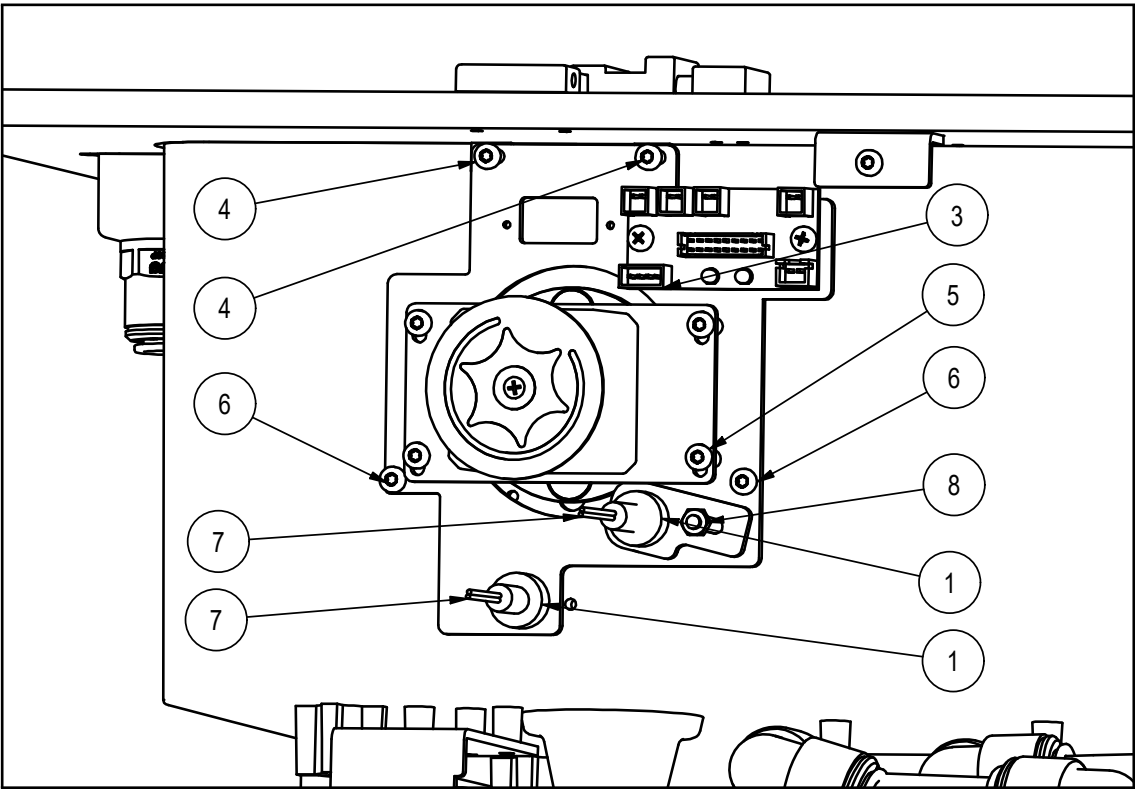

Figure 6.8: The motor assembly and its components.
You will see two magnetic sensors (blue plastic and gray cable, number 7 in Figure 6.8) mounted on the bottom of the motor assembly. The sensor on the left is the presence sensor and it's fixed in place, the sensor on the right is the rotation sensor.
3. Loosen the self-locking nut that holds the rotation sensor in place (number 8 in Figure 6.8) so that the sensor is free to move around.